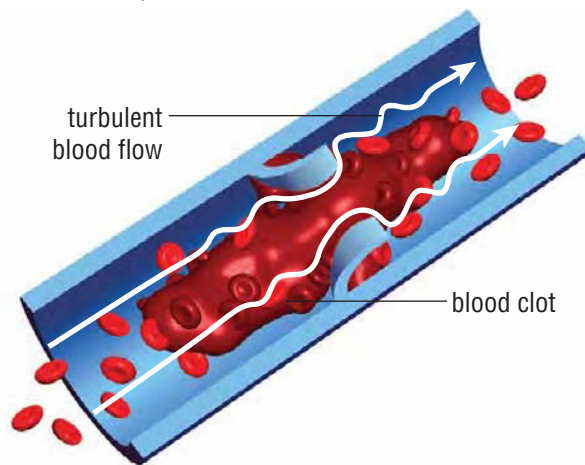

Figure 6 A blood clot in this vein slows the flow of blood back to the heart.
- Blood thinners are medicines given to people whose blood forms clots (Figure 6) too easily. Clots inside arteries and veins can cause heart attacks and strokes.